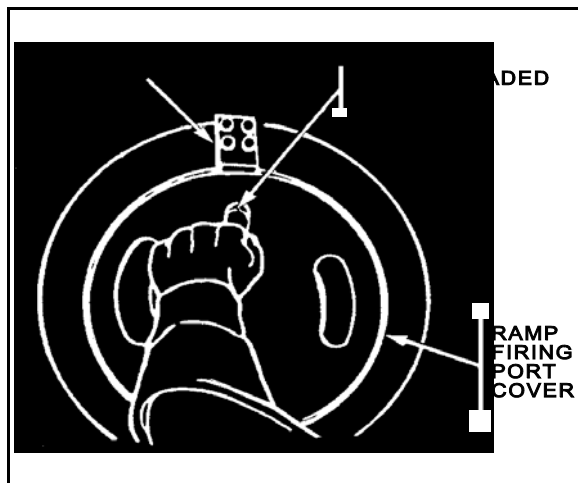

Figure 3. Ramp firing port cover.
4. Close the ramp firing port cover (Figure 3).